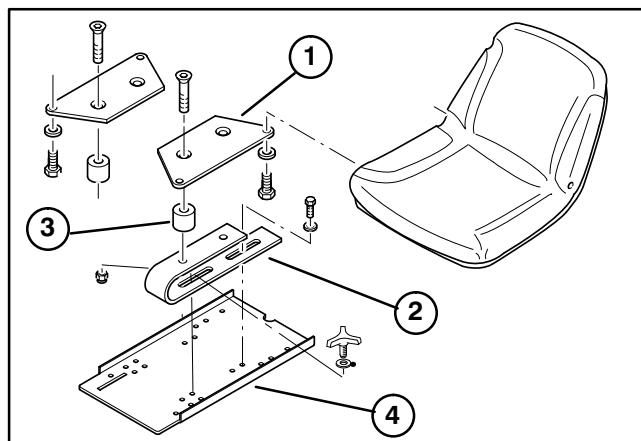

Figure 6
INSTALL SEAT (Fig. 6–7)
- Mount a seat adapter plate to each seat spring with (2) spacers, socket head screws and locknuts (Fig. 6).
- Mount each seat adapter plate to bottom of seat with (2) capscrews and washers. Position adapters and springs as shown in figure 6.
- Loosely mount front of seat springs to seat plate with (2) capscrews and washers and rear with (2) knobs and washers (Fig. 6).